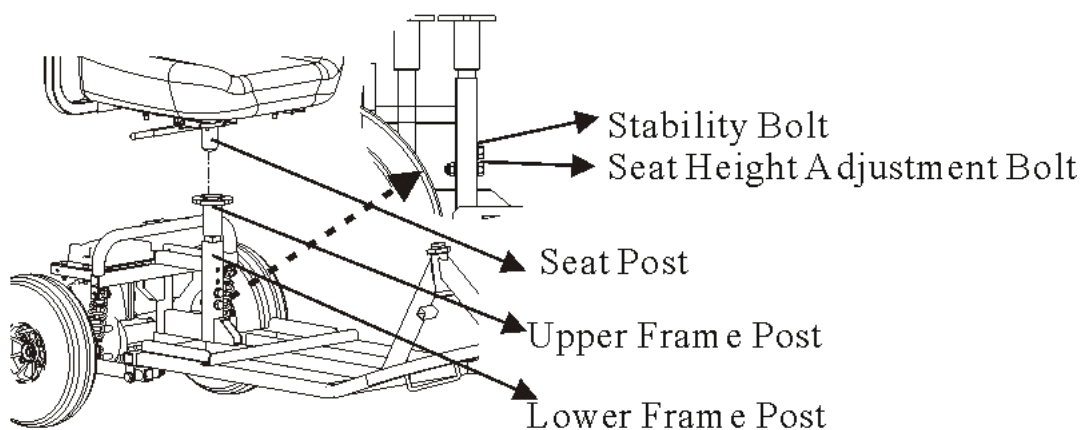

Figure 7.5
7.11.1 The seat post rests on a seat height adjustment pin that runs through the center of the frame post (see Figure 7.5). There are three holes in the frame post that allow you to adjust the seat height to 17.5"(44.5 cm), 18.5"(47 cm) or 19.5"(49.5 cm). The adjustment pin is nestled between the two batteries and is hidden behind the main wiring connected from the central relay box (controller) to the front of the scooter.